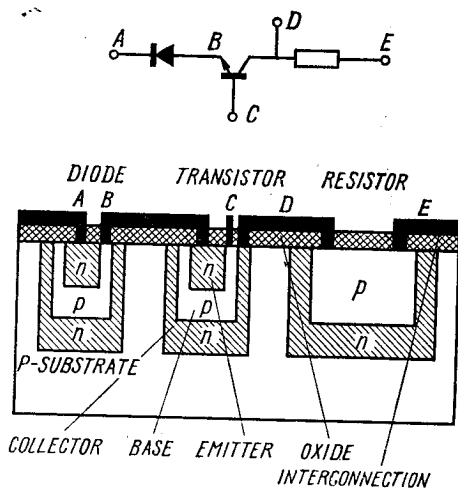

Fig. 25. Cross-section display of portion of typical monolithic IC containing diode, $n-p-n$ transistor and resistor
4. The fabrication of monolithic devices is dependent upon the ability to selectively define and produce active and passive region in the chip. A cross-sectional view of a typical monolithic chip and the circuit it represents are shown in Fig. 25. This illustration shows the common four-layer epitaxial structure in use and how the elements are electrically isolated with reverse-biased junctions.³
7. IC circuit illustrated in Fig. 25 comprises...